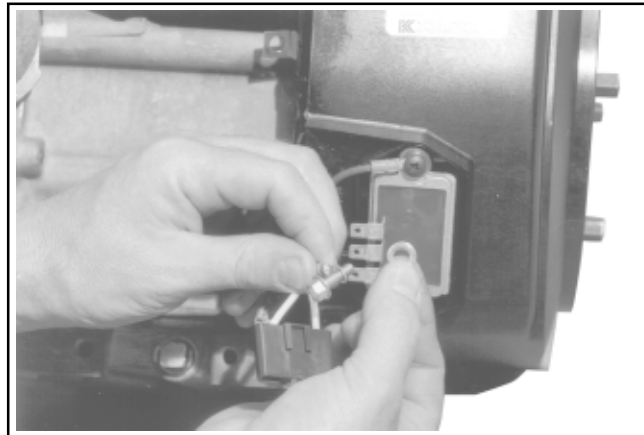

Figure 11-68. Connecting Ground Lead.
1. Install the rectifier-regulator in the blower housing, if removed previously, then connect the rectifier-regulator ground lead with the washer and silver screw through the eyelet as shown in Figure 11-68. If a grounding bracket is used, secure with the lower mounting screw and washer, against the **outer** side of the rectifier-regulator. See Figure 11-70.